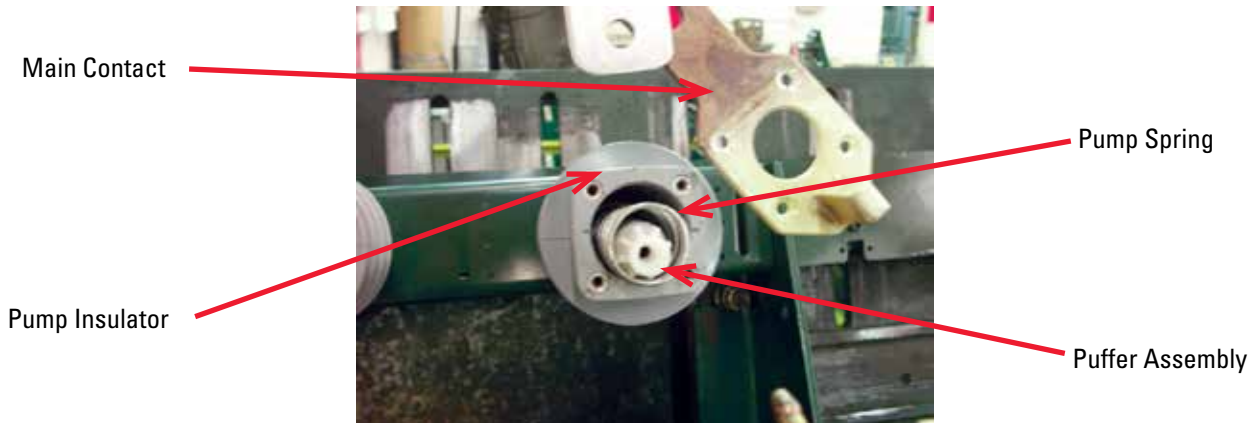

Figure 4. Pivot main contact off pump insulator to expose puffer assembly and pump spring.
- d. Pivot the main contact off of the pump insulator, to expose the pump spring and puffer assembly. See Figure 4. To pivot the main contact, it may be necessary to further compress the pump spring (by reaching through the opening in the main contact).